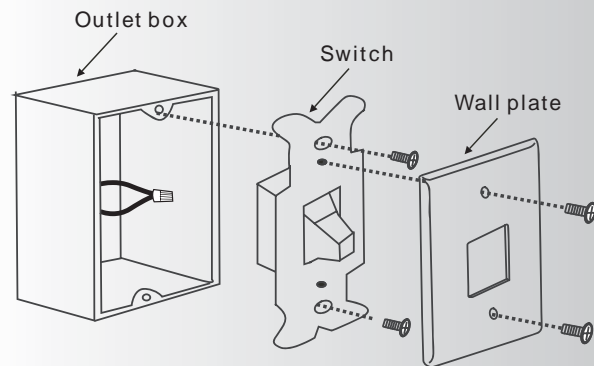

Fig. 27
Step 1. Remove the existing wall plate and the old switch from the wall outlet box. Wire nut the BLACK leads (hot) together and push back inside the outlet box. (Fig. 27)